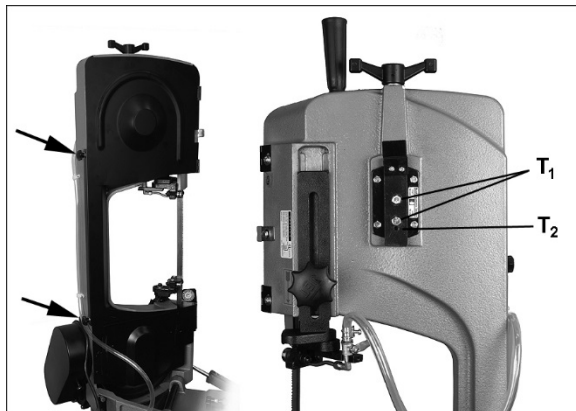

Figure 8-10: Blade Tracking Adjustment
- Open rear guard by removing two knobs (see Figure 8-10).
2. Open rear guard by removing 2 knobs (see Figure 8-10). Observe position of blade on wheel. If blade is not adjacent to wheel flange, first adjust blade tracking according to sect. 8.9 Blade Tracking.
6. If blade is not tracking properly, loosen bolts (T_1 , Figure 8-10) with 12mm wrench.